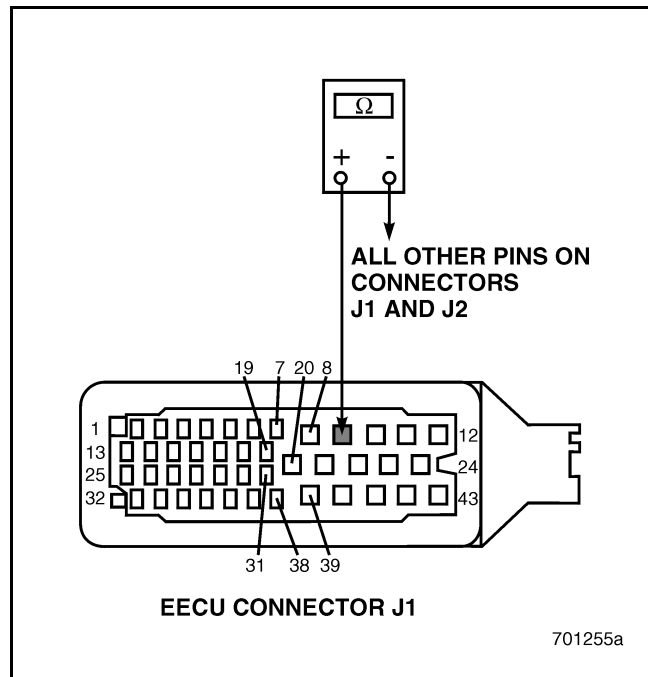

Figure 458
4. Check for continuity between EECU connector J1 pin 9 and all other pins on connectors J1 and J2 (see Figure 458).